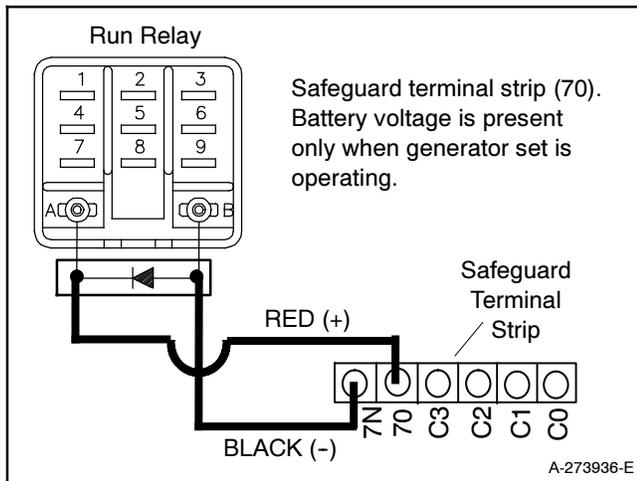

Figure 4 Electrical Connections for Run Relay Kit
- 3.6 Connect the wiring harness (GM75854) to the relay assembly and connect the red wire of the run relay to terminal 70 (+) and the black lead to terminal 7N (-) of the safeguard terminal strip. See Figure 4.